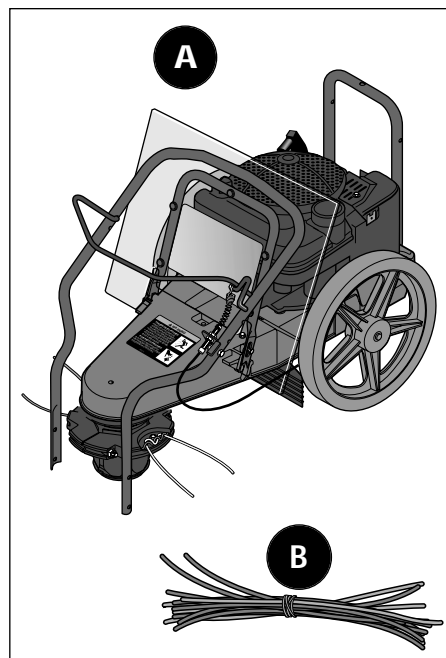

Figure 2-1
- Trimmer/Mower Assembly (A, Figure 2-1)
- Extra Trimmer Line (B, Figure 2-1): six each of heavy-duty gauge .130" dia. line and extra heavy-duty gauge .155" dia. line.
- (3) Plastic Cable Tie